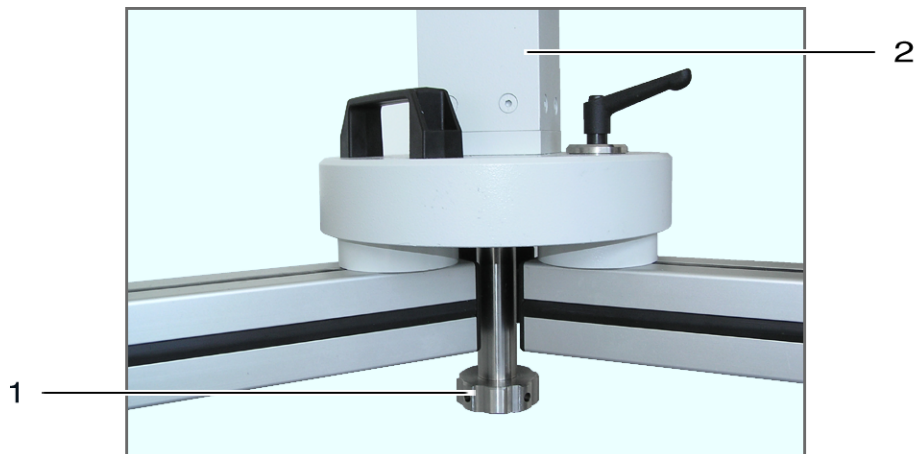

Fig. 24: Tripod foot with tripod support
3. Attach tripod support onto tripod foot and hand-tighten fixing screw (see Fig. 24).